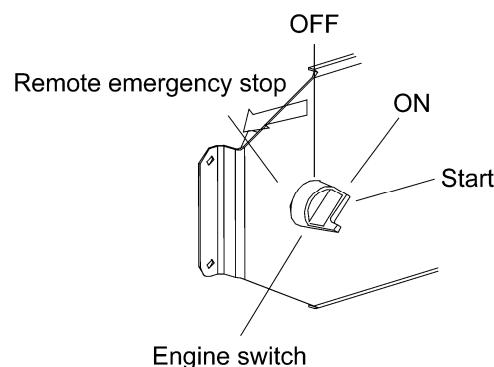

Figure 26 Remote stop in remote start status
**6.3** In condition that the generator cannot be stopped by remote control, turn the engine switch to OFF1 position, then the remote control can emergency stop the generator in remote start status. See figure 26.